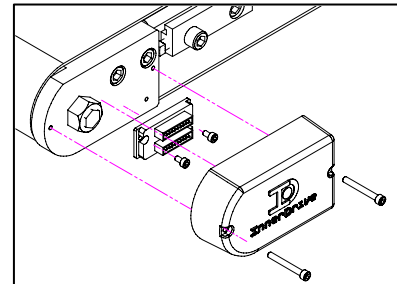

Figure 2
- c. Next, remove the Junction Circuit Board by removing both screws, using a 2.5mm Allen wrench. Then remove Junction Circuit Board (**Figure 2**).